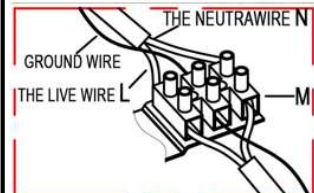

Fig.2
13. Place the mounting plate(A) over the center of the ceiling junction box.
14. Align holes in mounting plate(A) with holes in junction box and attach with two mounting screws(J). Secure screws with a Phillips head screwdriver.
15. Push canopy(B) up over the mounting plate(A) until it is flush with the ceiling. Secure canopy(B) by 2 canopy screw(D) and secure screws with a Phillips head screwdriver.
16. Position the Metal Cap (H1) and Notching Metal Cap (H2) at the desired location on the ceiling, and mark 5 spots with a pencil to drill holes. Drill 5 holes at the marked spots and insert the anchors (Q) into the drilled holes. Fix Metal Cap (H1) and Notching Metal Cap (H2) with a strengthened screw (E) by screwing it into the anchor (Q). Screw the wire w/ metal cover(F1) to the metal cap (H1) until it is tight, as shown in Fig. 1. Fix the fabric wire(M) to the ceiling by attaching the Metal Cover (F2) to the Notching Metal Cap (H2) and then secure it by turning it clockwise until tight, as shown in Fig. 2.